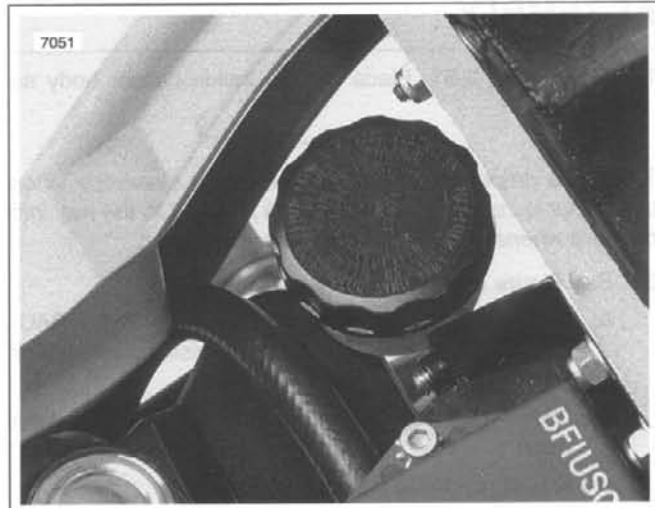

Figure 2-53. Rear Reservoir
5. See Figure 2-53. Verify proper fluid level in reservoir.